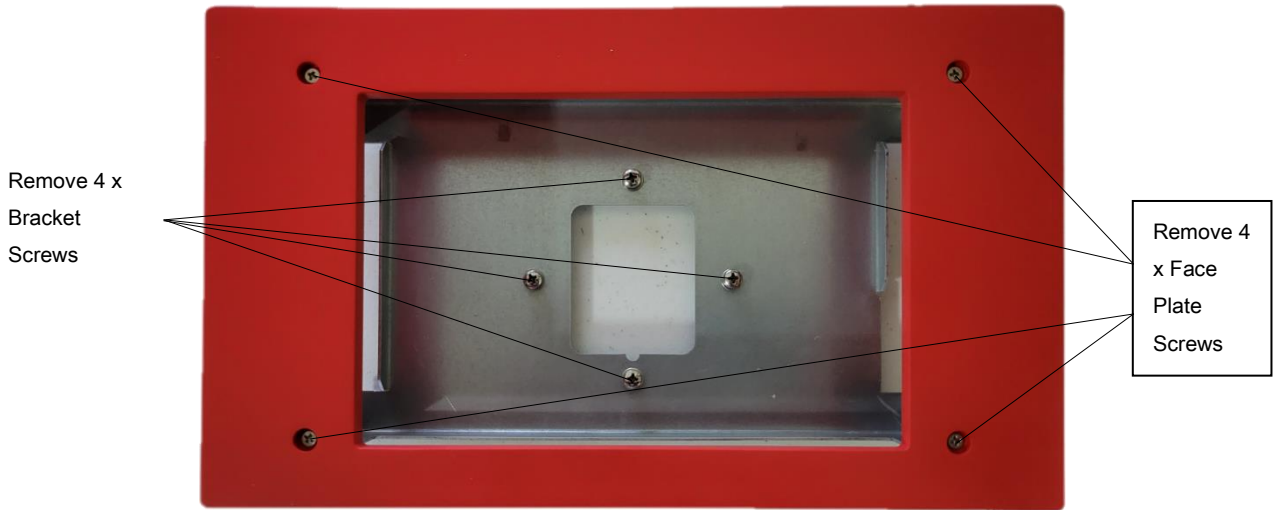

Figure 31: APV3-DAS - Flush Mount Kit Face Plate and Bracket Screw Removal
Follow the instructions below, and see Figures 31 through 34, to flush mount the APV3-DAS:
- Remove the (4) Philips head screws holding the faceplate to the mounting bracket. Do not discard screws as these will be used to reinstall the face plate. Remove the face plate.
- Remove the (4) screws that are attached to the mounting bracket from the factory. These screws will be used in the next step to attach the APV3-DAS standard mounting bracket to the flush mount bracket. See Figure 31 below.